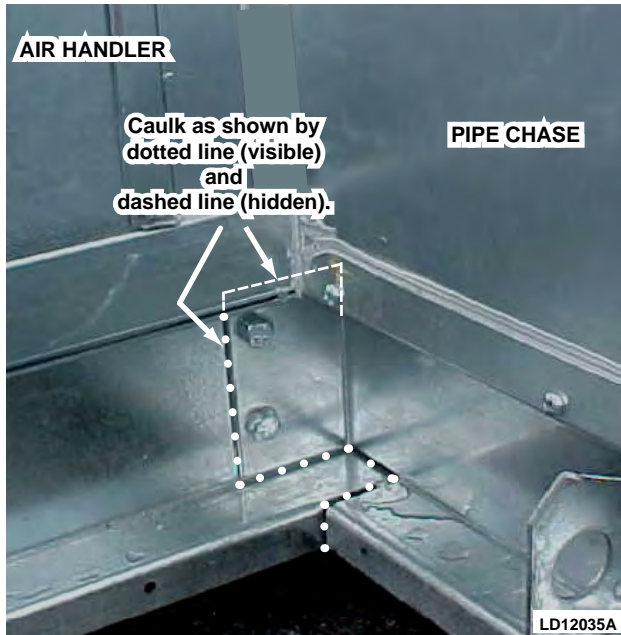

FIG. 2-45 – BASERAIL CAULK APPLICATION
- Apply caulking to all exterior joints between pipe chase and air handler baserails (when purchased) (see Fig. 2-45).